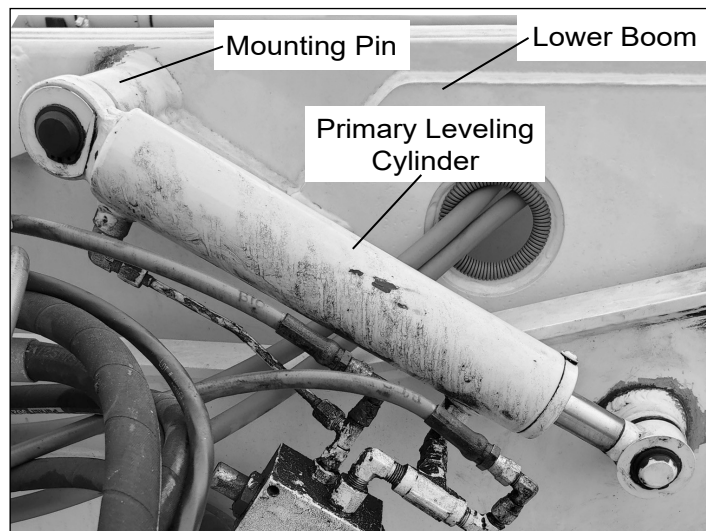

Figure 1 — Locating Leveling Cylinder Mounting Pin
2. Find the primary leveling cylinder mounting pin located on the street side of the lower boom (refer to Figure 1).